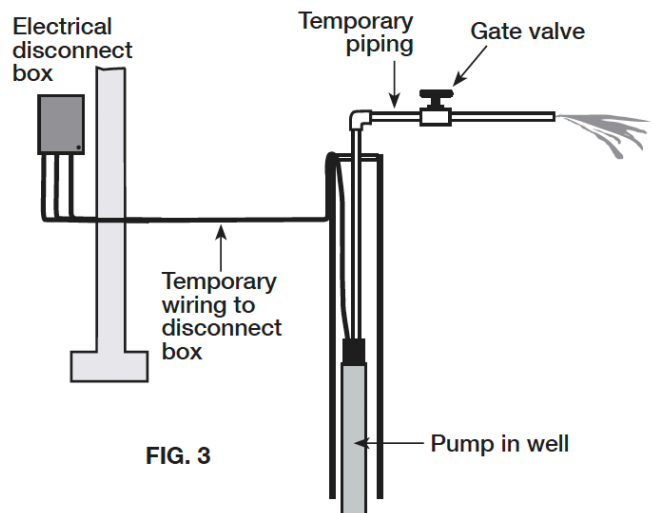

FIG. 3
1. Connect a pipe elbow, a short length of pipe and a gate valve to pump discharge at well head (see Fig. 3).
5. Set gate valve on discharge 1/3 open; start pump (see Fig. 3).